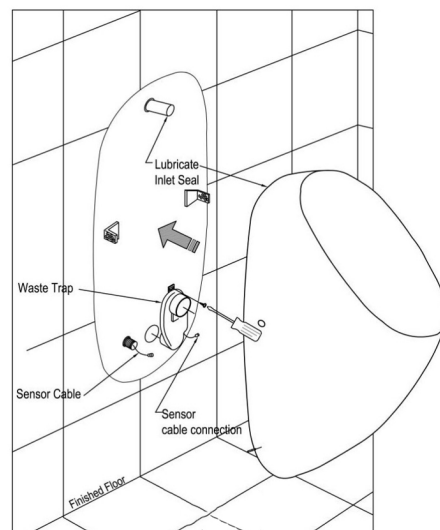

Fig. 7
5. Fit kee-seal to waste trap and lubricate before gently pushing into 50mm PVC DWV pipe so trap finishes flush with face of wall. Fix waste trap to wall with single screw (Fig. 7).